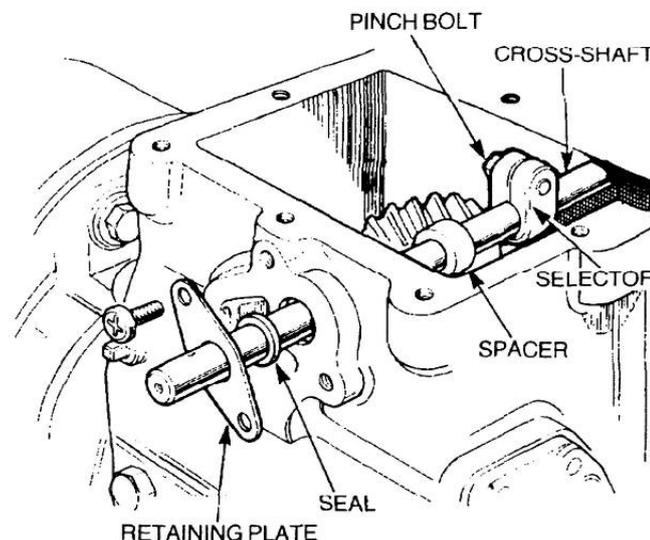

Figure 211 Removal of the Transfer Selector Cross-shaft
- aa. Slacken the pinch bolt securing the selector to the cross-shaft (Figure 211) and remove the two screws securing the retaining plates fitted to both ends of the cross-shaft. Remove the two plates and withdraw the shaft, selector and spacer. Discard the two seals.
- m. Position the cross-shaft selector in the transfer case and insert the cross-shaft and spacer engaging the selector (Figure 211). Fit a new seat on both ends of the shaft and secure it with the retaining plates. Tighten the retaining screws securely.